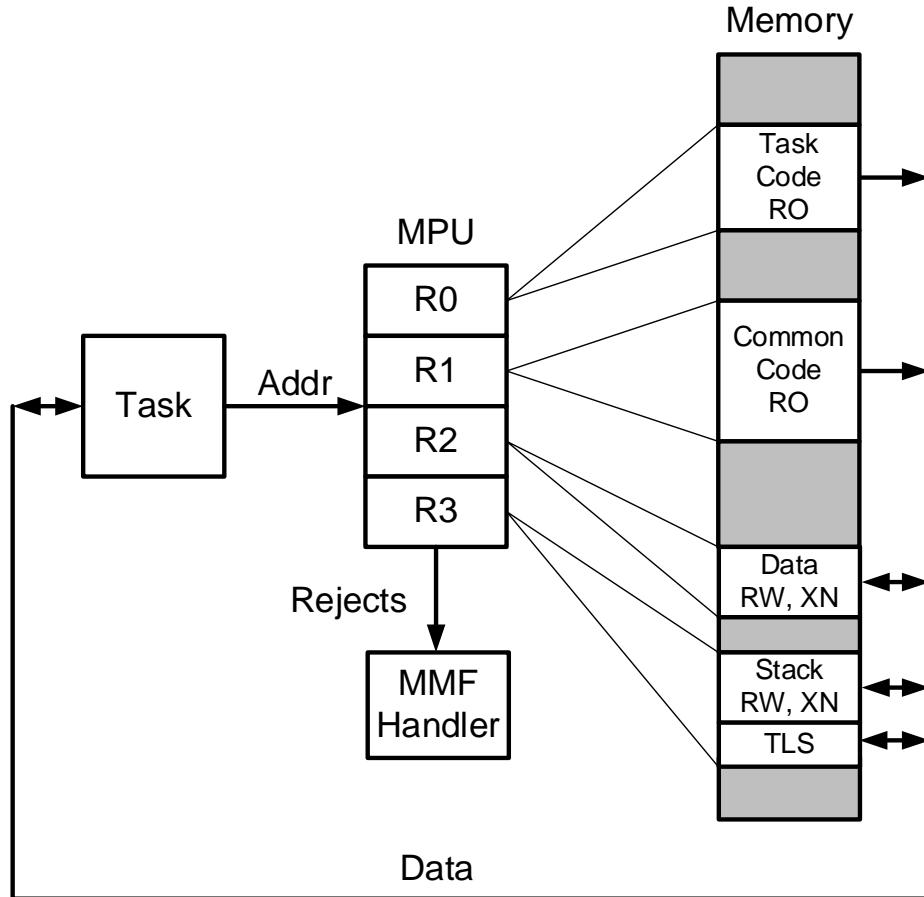

Figure 2.1 MPU Operation
Figure 2.1 shows a simplified MPU with only 4 slots. Most MPUs have 8 slots, some have 16. The region stored in R0 is a Read Only (RO) region for task code. R1 is an RO region for code that is common with other tasks. R2 is a Read/Write (RW) and eXecute Never (XN) region for data. R3 is the task stack, which is also RW and XN. Also shown also is optional Task Local Storage (TLS) that can be part of the task stack region and which can be used for local task data, such as a buffer.